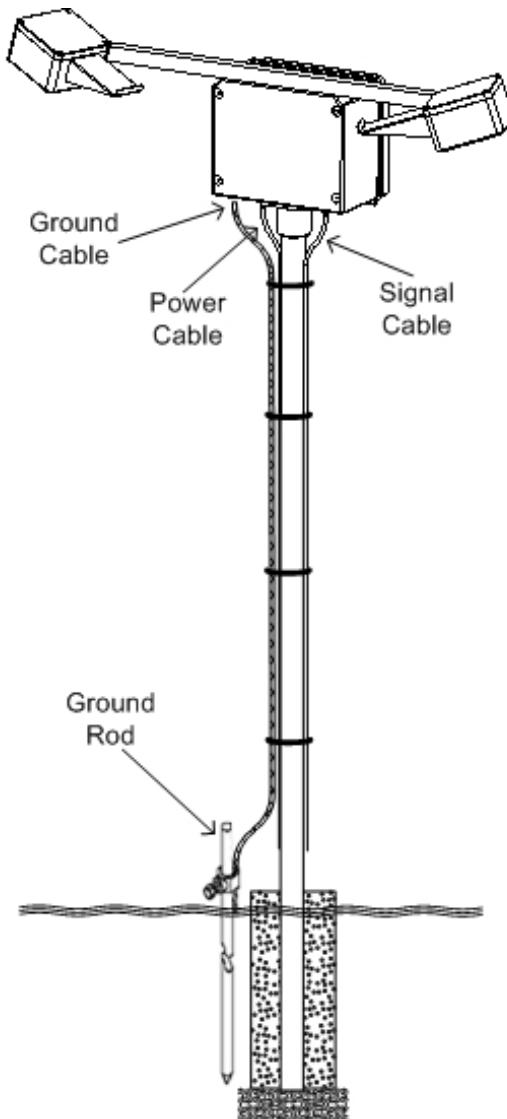

**Figure 2.4.2-1 User DC Power Wiring**
4. Strip ~6 mm (1/4") of insulation from each of the conductors and connect them to TB1 of the P/N 30006 DC Power PCB Assy as shown per Table 2.4.2-1 and in Figure 2.4.2-1.